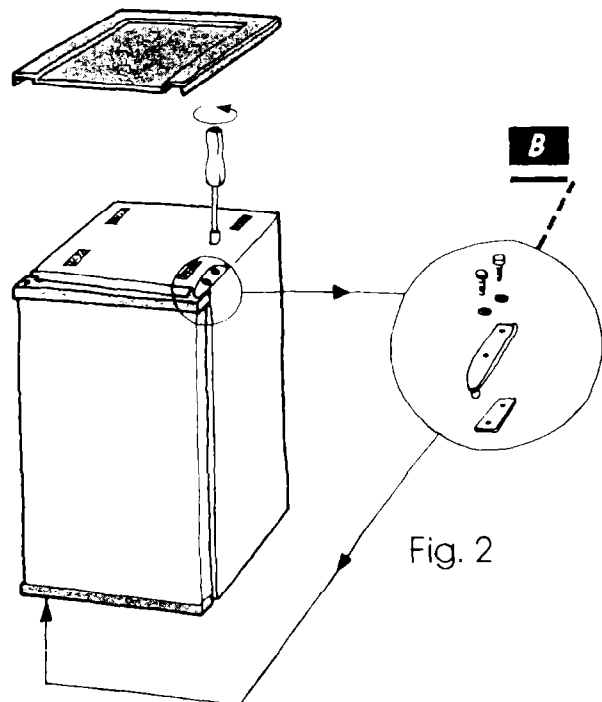

Fig. 2
- Using a 5/16" screwdriver loose screws "B" (Fig. 2). Remove the door lifting it gently.